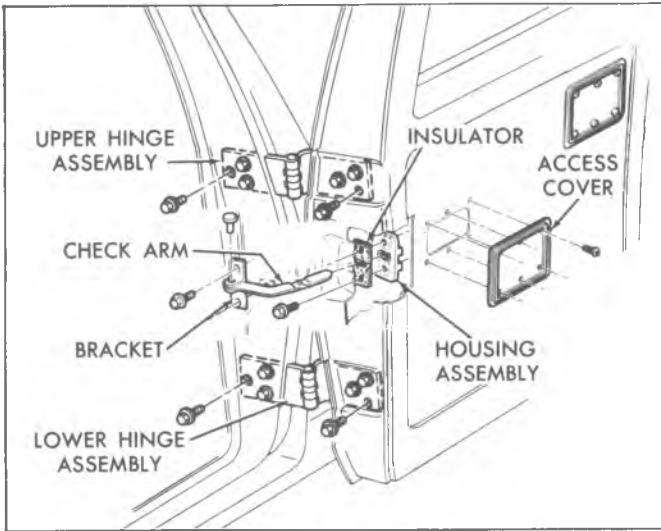
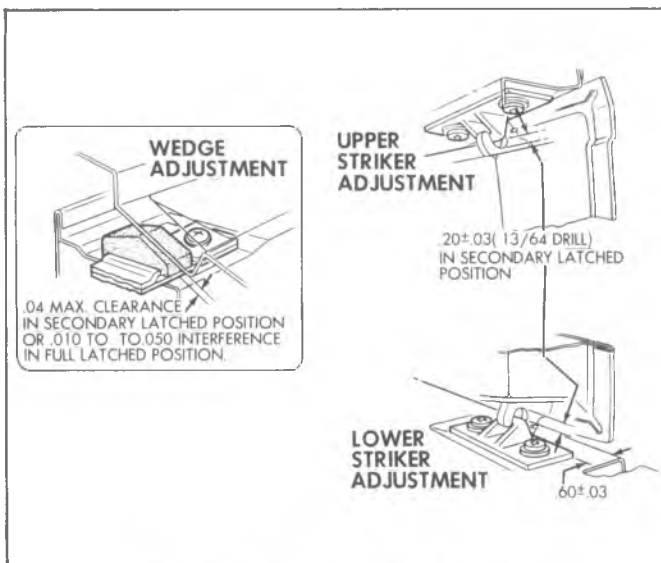

Fig. 47—Rear Door Hinges and Check Arm
Fig. 48—Wedge and Striker Adjustments
Rear doors may be adjusted in the body opening by loosening hinge bolts and repositioning door, then retightening bolts. See figure 47 for hinge bolt location. Rear door wedges and strikers should be adjusted as shown in figure 48.
**REAR DOOR—FIG. 47**
**CHECK ARM—FIG. 47**